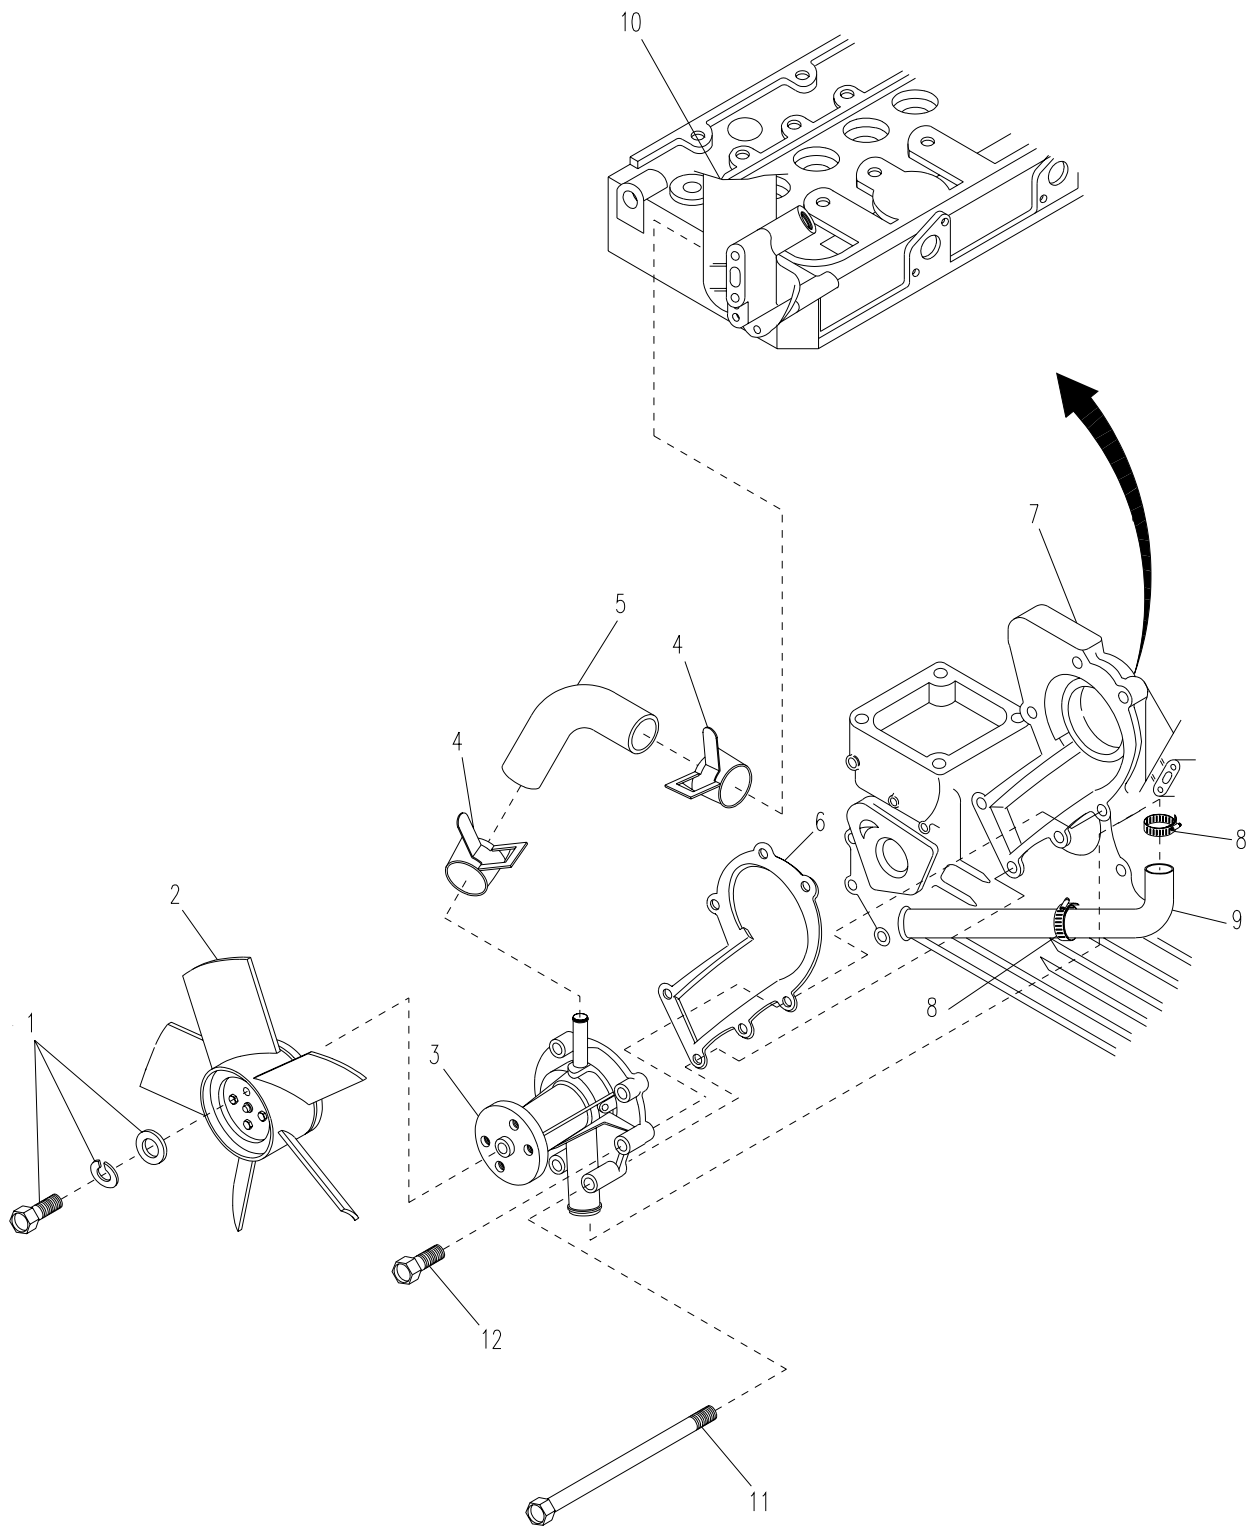

Figure 5-6. Water Pump
- a. Loosen two clamps (8) securing lower hose (9) to water pump (3) and remove lower hose (9).
- b. Loosen two clamps (4) securing upper hose (5) to water pump (3) and water flanges (10) and remove upper hose (5).
- c. Remove seven bolts (11 and 12), gasket (6), and water pump (3) from engine block (7).
- d. Remove four bolts and lock washers and flat washers (1, Figure 5-6) securing fan (2) to water pump (3) and remove fan (2).
- f. Apply sealing compound to both sides of new gasket (6).
- g. Install fan (2) and secure with four lock washers and flat washers and bolts (1).